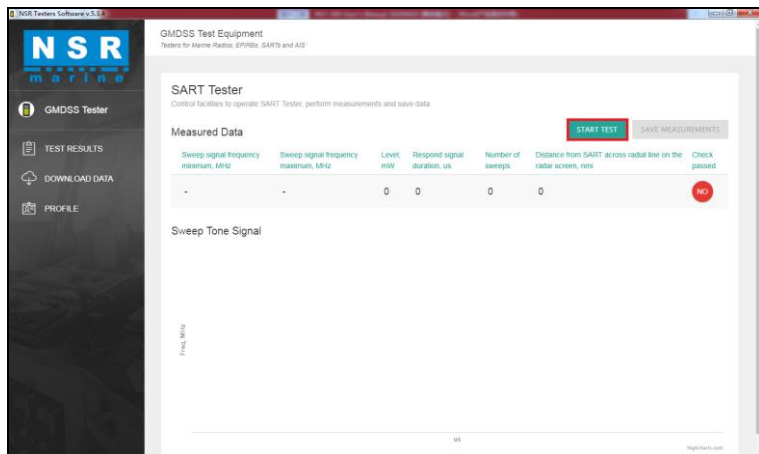

Figure 5-5. START TEST Tab
1. Click on the START TEST tab in the program window as shown in Figure 5-5.